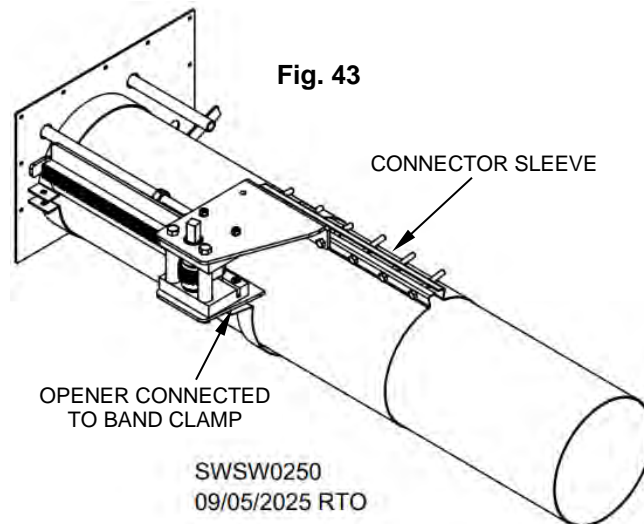

Fig. 43
5. Bolt opener assembly to band clamp after centering connector sleeve on unload tube joint. Attach opener assembly to connector sleeve using three bolts closest to bin wall. See Fig. 43. (Instructions are same for 8" and 10" unloads.)